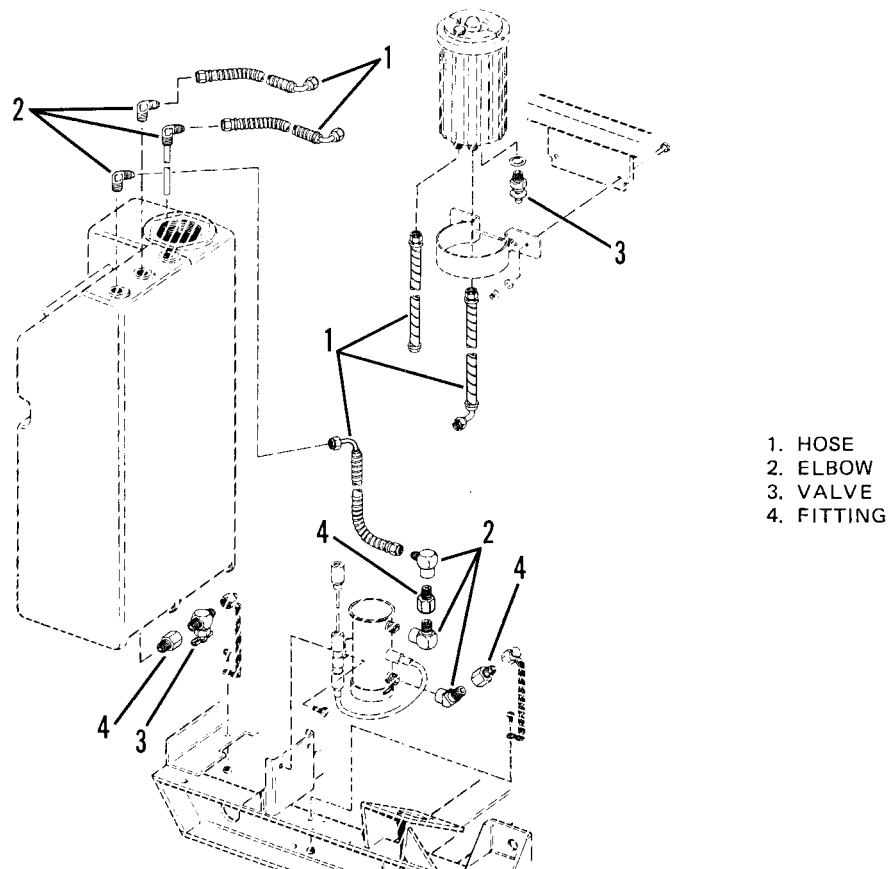

Figure 4-29. Flexible Fuel Lines.
- (1) Coat the threads of float switch (2) with sealing compound (Table 3-1, item 13) and install switch (2) on tank (3).
- (2) Connect electrical connector to switch connector pins (1).
4-39. FUEL LINES, FLEXIBLE. Refer to Figure 4-29 and replace fuel hoses (1), elbows (2), valves (3) and fittings (4) as necessary.